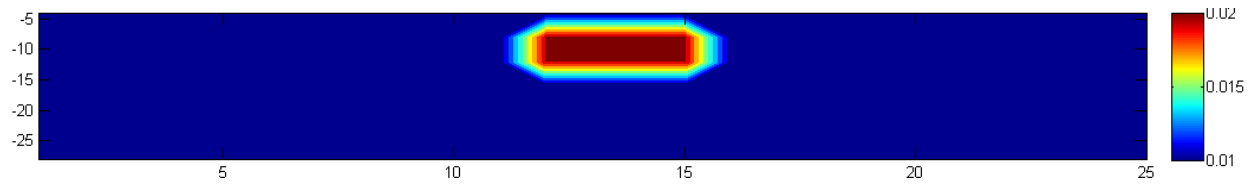

Figure 2: True model
Here we simulate anomalous body having conductivity value of 0.02 S/m and buried in a homogenous host medium with conductivity of 0.01 S/m (Figure 2). The inversion results and image appraisal analyses are shown in Figure (3). The anomalous body recovered fairly well. The estimated maximum DOI matches the bottom boundary of the anomalous body. The model resolution image shows regions within the model domain that are controlled by the data (bright colored regions) and by the inversion constraints (dark blue regions). This input data for this synthetic example are located inside the “synthetic example” folder located within the code main folder.